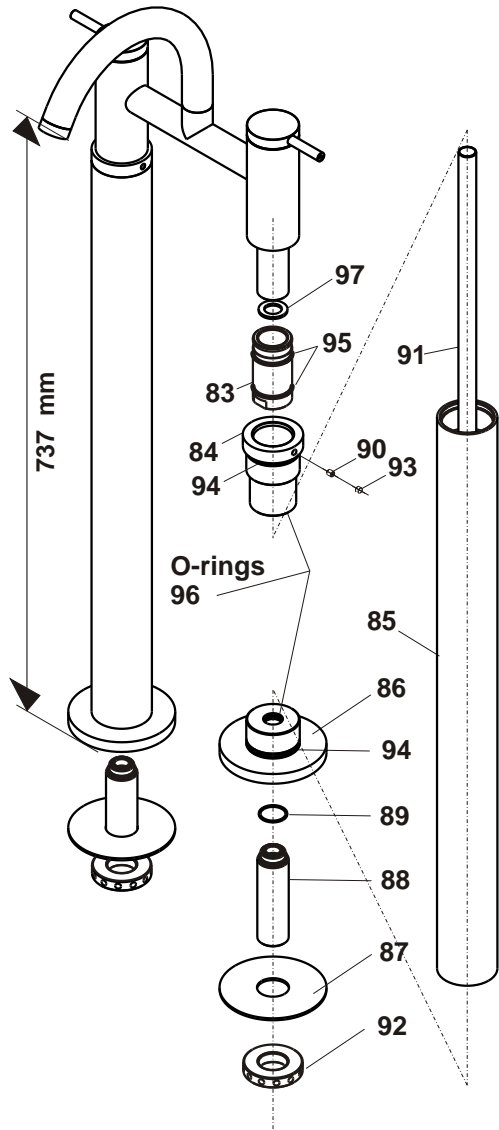

Figure 21
Connect threaded insert (83) (Figure 21) to the G $\frac{3}{4}$ tails of the mixer. Place the sealing washer (97) inside the insert and seal using thread tape or traditional hemp and compound.
Push-fit coupler end of stand pipe (84), on to the insert (83) and secure with grub screw (90). Fit blanking plug (93). (Figure 21) Repeat for second stand pipe.